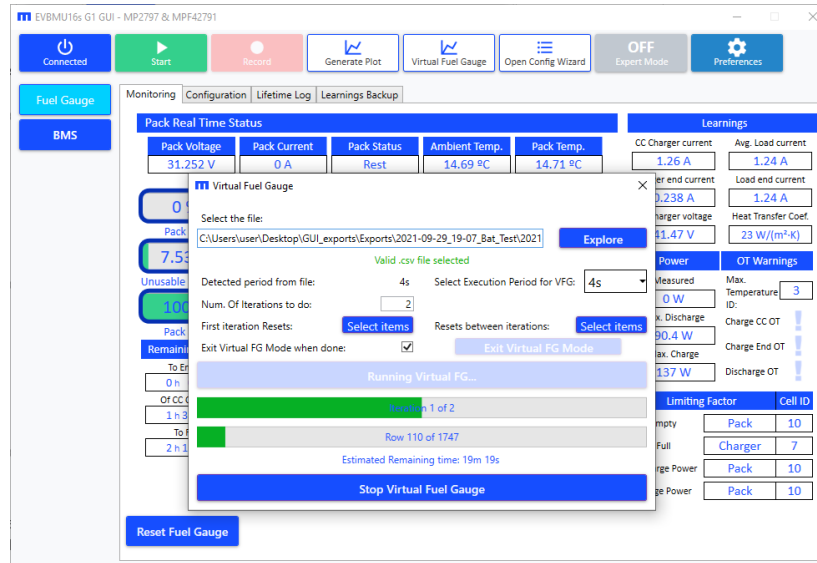

Figure 62: Virtual Fuel Gauge (Running)
- The virtual fuel gauge should run the tests. There are two progress bars to indicate the status of this process, as well as the ongoing iteration. The window also displays the estimated remaining time (see Figure 62).